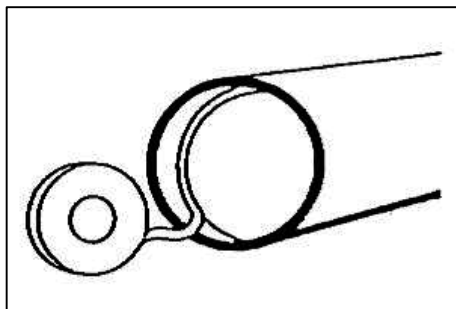

Figure B2.4
- 3.3.5.3. Position the disc within the pipe and tape in place with water soluble paper. Repeat procedure for other section. Insert the backing gas into the joint with a needle valve and make root pass in the usual manner (Refer Figure B2.4).